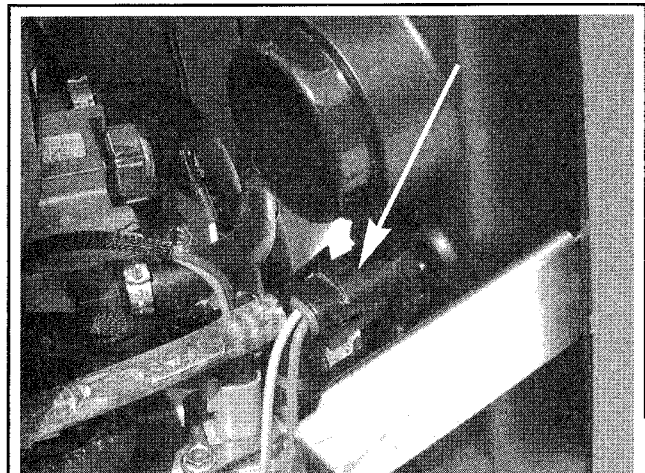

Fig. 245 The AT sensor is normally mounted in the rear of the air intake silencer housing
- ◆ See Figures 245, 246 and 247
- ◆ See Figure 245